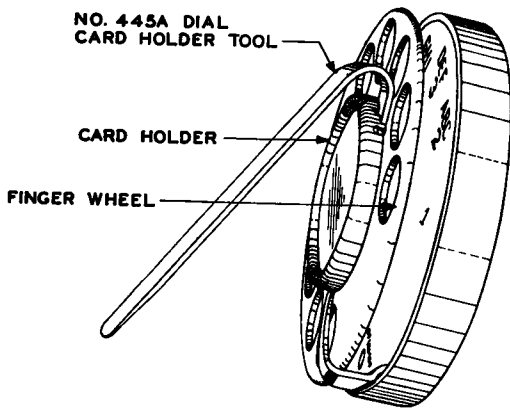

Fig. 15 — Method of Removing Dial Card Holder
(2) Remove the card holder by inserting the point of the No. 445A dial card holder tool into either of the two slots of the card holder adjacent to the 2 hole of the fingerwheel, forcing the other end of the tool away from the fingerwheel, as shown in Fig. 15.
(3) Remove the fingerwheel clamping nut with the No. 311 wrench and remove the lockwasher, if provided; then remove the fingerwheel. A C screwdriver or the equivalent may be inserted into the slot of the No. 311 wrench to assist in turning the nut.
(6) Remove the card holder by inserting the point of the No. 445A dial card holder tool into either of the two slots of the card holder adjacent to the 2 hole of the fingerwheel, forcing the other end of the tool away from the fingerwheel, as shown in Fig. 15.
(7) Remove the fingerwheel clamping nut with the No. 311 wrench and remove the lock-washer, if provided; then remove the fingerwheel. A C screwdriver or the equivalent may be inserted into the slot of the No. 311 wrench to assist in turning the nut.